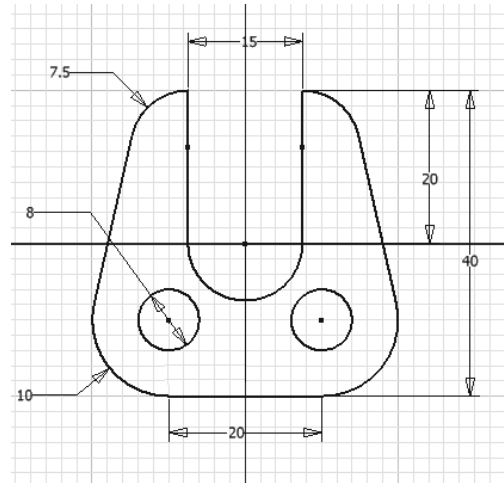

Figure 3-58 The final dimensioned sketch for Tutorial 3
- Draw inner circles and add constraints and dimensions to them, refer to Figure 3-58.
Notice that the size of the right circle is automatically modified to match the dimension of the left circle. This is because the **Equal** constraint is applied between the two circles. The final sketch for Tutorial 3 after drawing and dimensioning circles is shown in Figure 3-58.